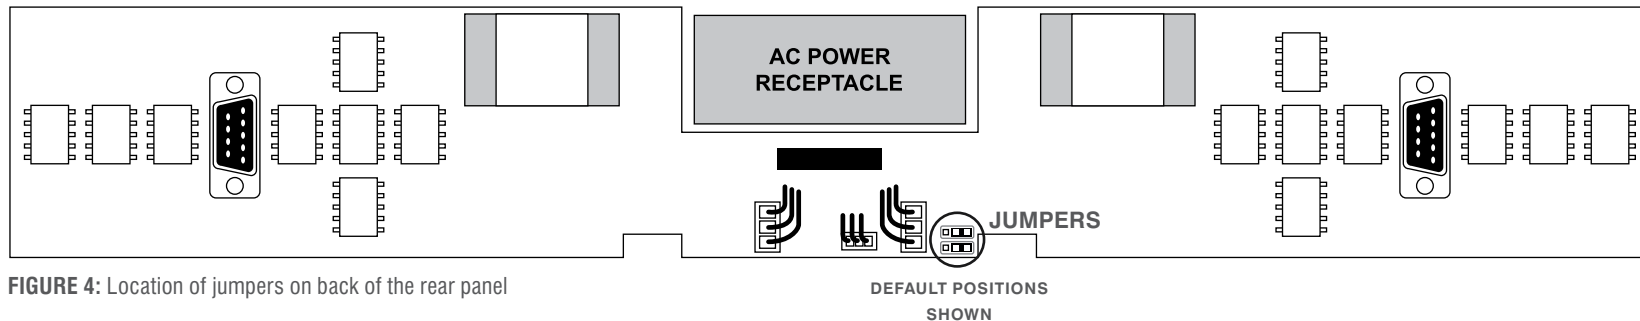

FIGURE 4: Location of jumpers on back of the rear panel
STEP 4: Locate jumper J18 on the rear panel board of the unit. Using needle-nose pliers, move the jumper from between pins 2 and 3 to pins 1 and 2. (See FIGURES 4 & 5)